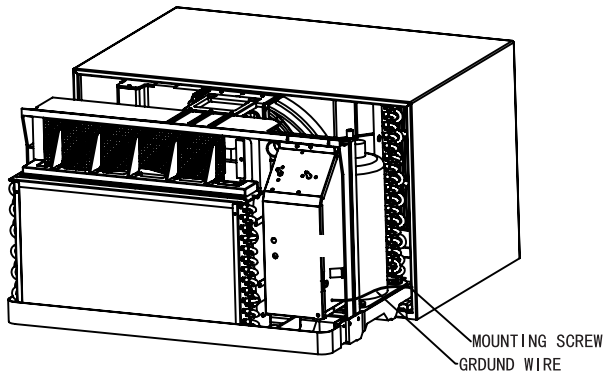

Figure 3
2. Remove the grounding screw and wire next to the grounding symbol on right side of chassis control panel (Figure 3). Attach other end of ground wire to the hole in the bottom right side of the sleeve with #8 x 3/8" blunt point sheet metal screw. The hole on the sleeve is indicated by grounding symbol on the sleeve. Slide chassis part of the way into the sleeve and reattach the ground wire back to the hole on the right side on the control panel area next to the grounding symbol.